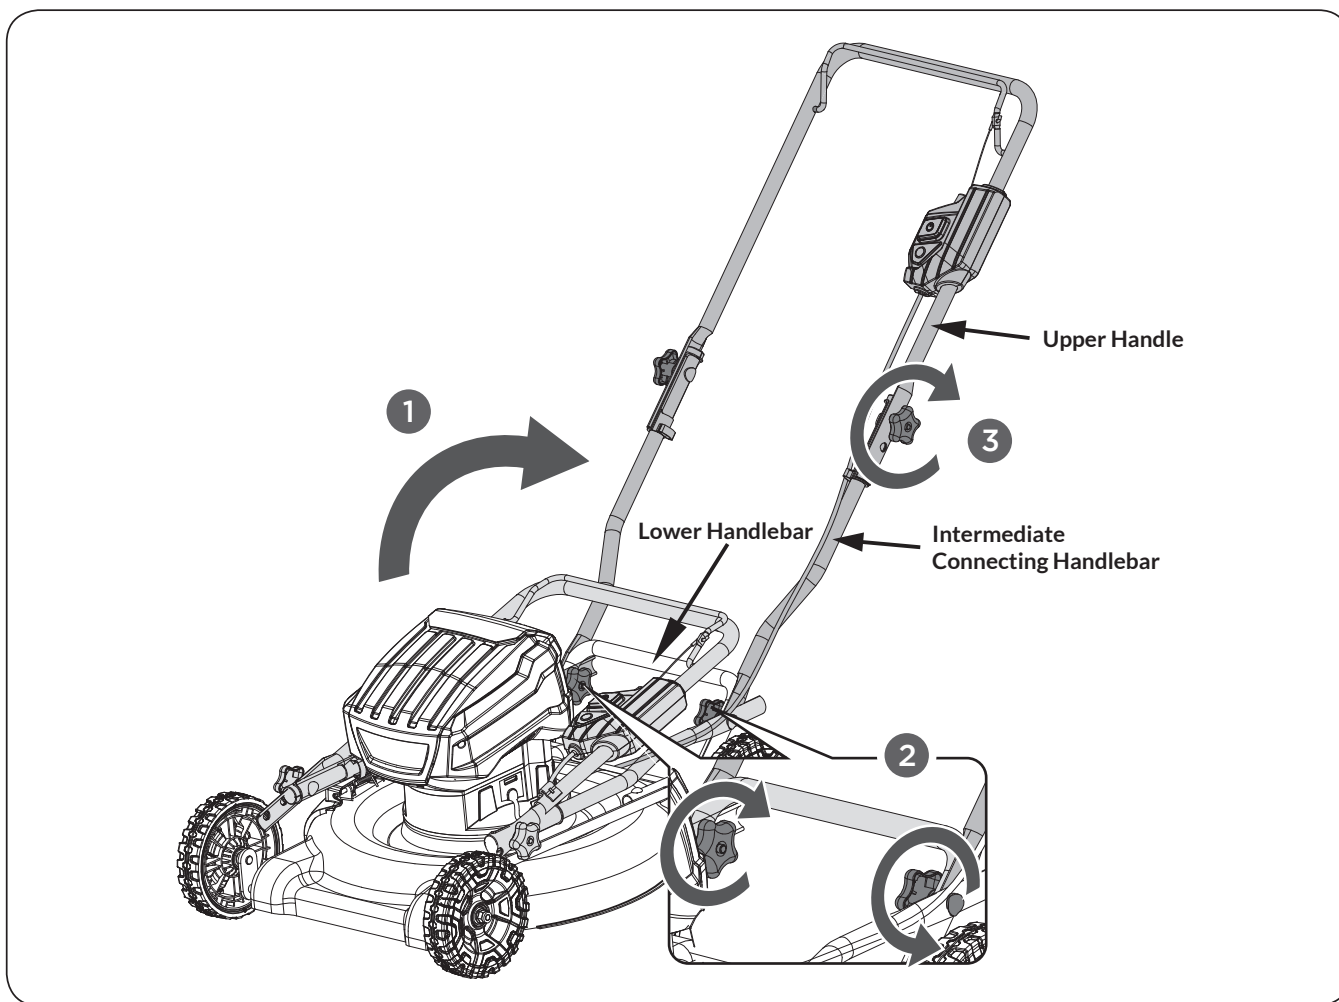

Figure 2
1. Unfold the handlebars to the working position. (See **Figure 2, illustration 1**)
2. Tighten the lower star shaped clamping nut knobs and carriage bolts (connecting the lower and intermediate connecting handlebar). (See **Figure 2, illustration 2**)
3. Tighten the star shaped knobs and carriage bolt connecting the upper and intermediate connecting handlebars. (See **Figure 2, illustration 3**)